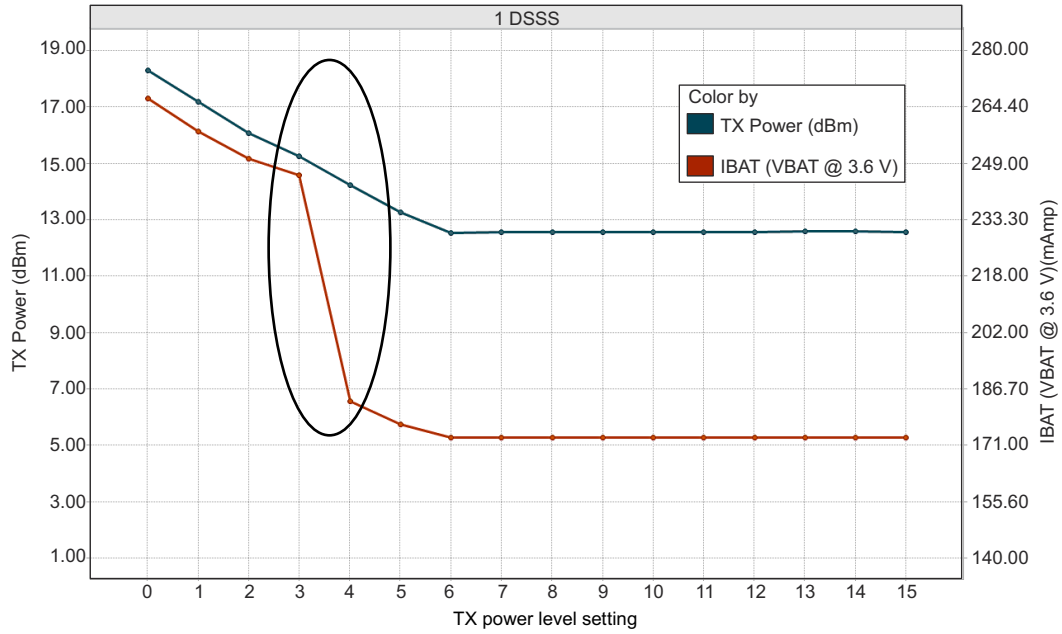
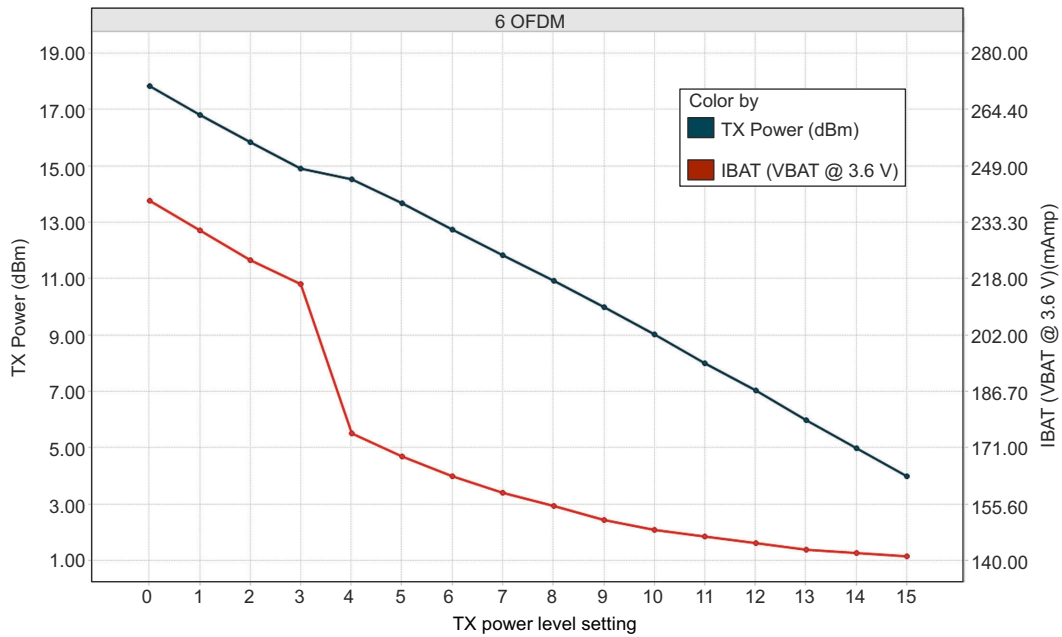
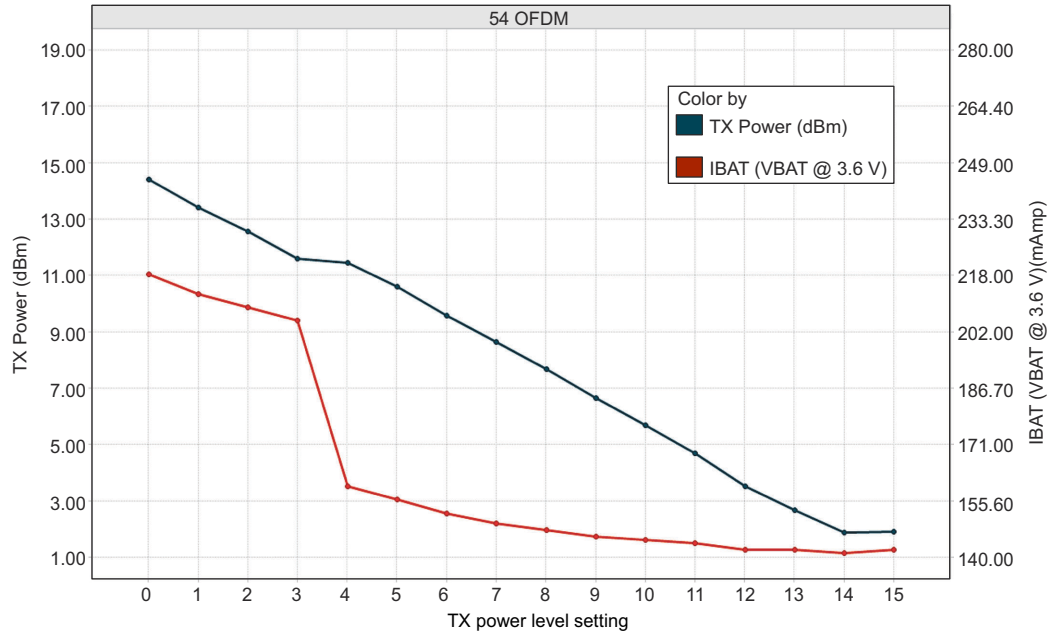

图 8-1. TX Power and IBAT vs TX Power Level Settings (1 DSSS)
图 8-2. TX Power and IBAT vs TX Power Level Settings (6 OFDM)
图 8-3. TX Power and IBAT vs TX Power Level Settings (54 OFDM)
- (1) TX power level = 0 implies maximum power (see 图 8-1, 图 8-2, and 图 8-3). TX power level = 4 implies output power backed off approximately 4 dB.
- (2) The CC3130 system is a constant power-source system. The active current numbers scale based on the  $V_{\text{BAT}}$  voltage supplied.
- (3) DTIM = 1
- (4) The complete calibration can take up to 17 mJ of energy from the battery over a time of 24 ms. In default mode, calibration is performed sparingly, and typically occurs when re-enabling the NWP and when the temperature has changed by more than  $20^\circ\text{C}$ . There are two additional calibration modes that may be used to reduced or completely eliminate the calibration event. For further details, see CC3x20, CC3x35 SimpleLink™ Wi-Fi® and Internet of Things Network Processor Programmer's Guide.
- (5) The RX current is measured with a 1-Mbps throughput rate.
图 8-1, 图 8-2, and 图 8-3 show TX power and IBAT versus TX power level settings for the CC3130 device at modulations of 1 DSSS, 6 OFDM, and 54 OFDM, respectively.
In 图 8-1, the area enclosed in the circle represents a significant reduction in current during transition from TX power level 3 to level 4. In the case of lower range requirements (14-dBm output power), TI recommends using TX power level 4 to reduce the current.